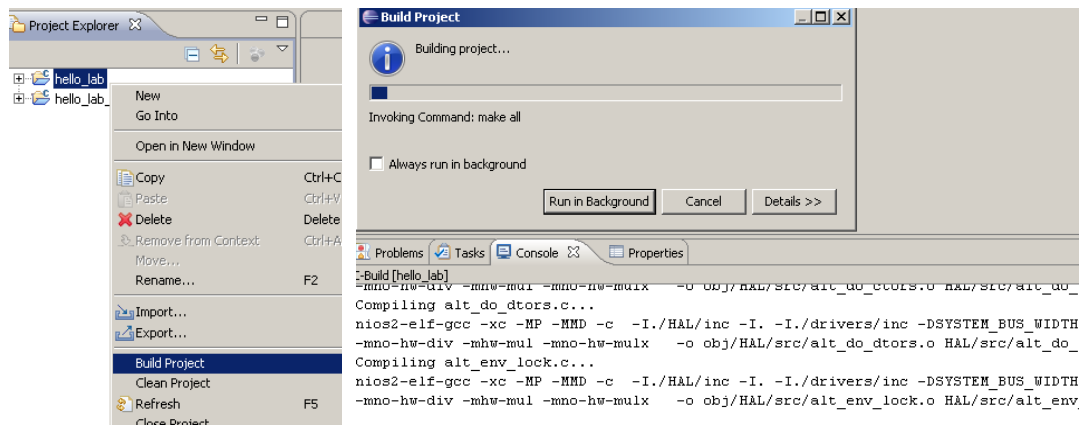

Figure 3.1: Building the hello_lab application
1. Right-click on the **hello_lab** project and select “**Build Project**” to start compiling, as shown in Figure 3.1. You don’t need to do this for the BSP project as it is a dependency of the hello_lab project, so the BSP project will be built automatically if necessary (for instance when the BSP settings are modified).